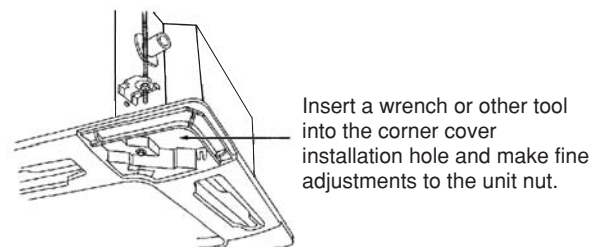

Fig. 9-19
- If there is a gap between the panel and the ceiling, leave the ceiling panel attached and make fine adjustments to the installation height of the unit to eliminate the gap with the ceiling. (Fig. 9-19)